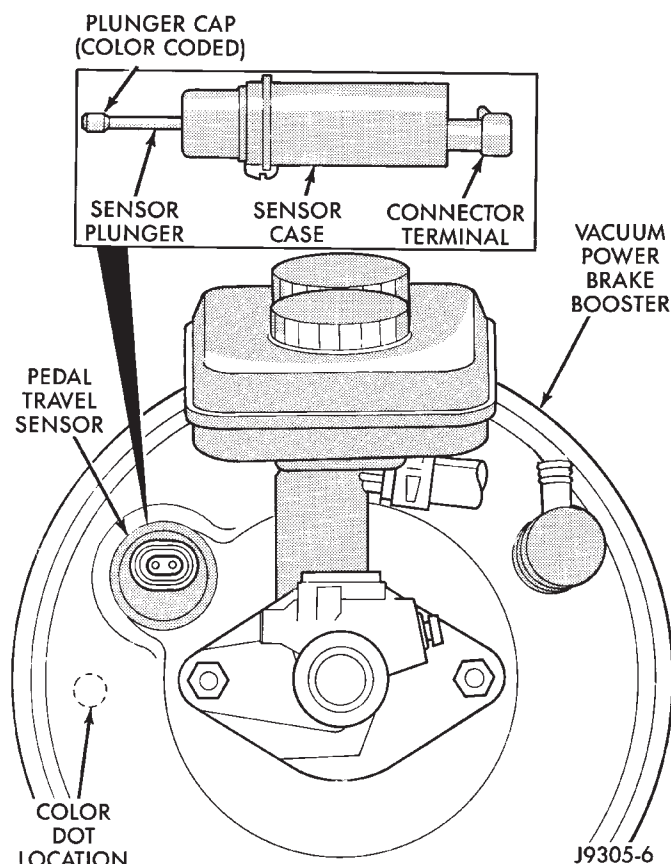

Fig. 1 Booster And Pedal Travel Sensor Color Code Locations
Compare the color of the new sensor cap and the color dot on the booster shell (Fig. 1). If the colors match, proceed with sensor installation. However, if the colors **do not match**, select and install the correct color cap on the sensor plunger before proceeding.
- (1) Check color dot on face of power brake booster (Fig. 1). Then check color of cap on sensor plunger. If colors match, proceed with installation. If colors do not match, install correct color cap on end of plunger.
- (2) Install O-ring on sensor.
- (3) Install sensor retaining ring on booster flange.
- (4) Insert sensor in retaining ring and booster.
- (5) Verify that retaining ring is properly engaged in sensor and that sensor is seated in booster.
- (6) Connect wires to sensor.
- (7) Check sensor operation with DRB II scan tool.
- (8) Connect battery negative cable.